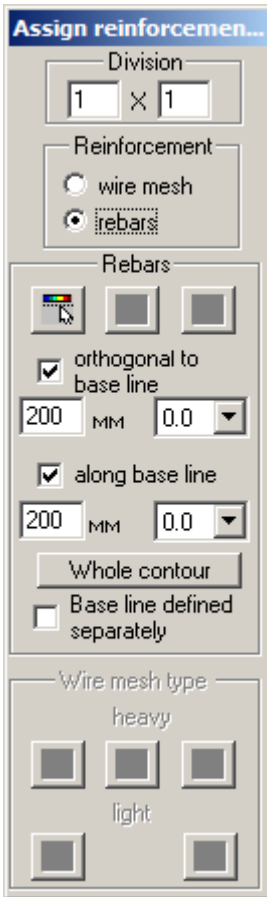

Figure 2.7.3 **Assign reinforcement zone** dialog box
- ⇒ In the **Assign reinforcement zone** dialog box (see Fig.2.7.3), do the following: